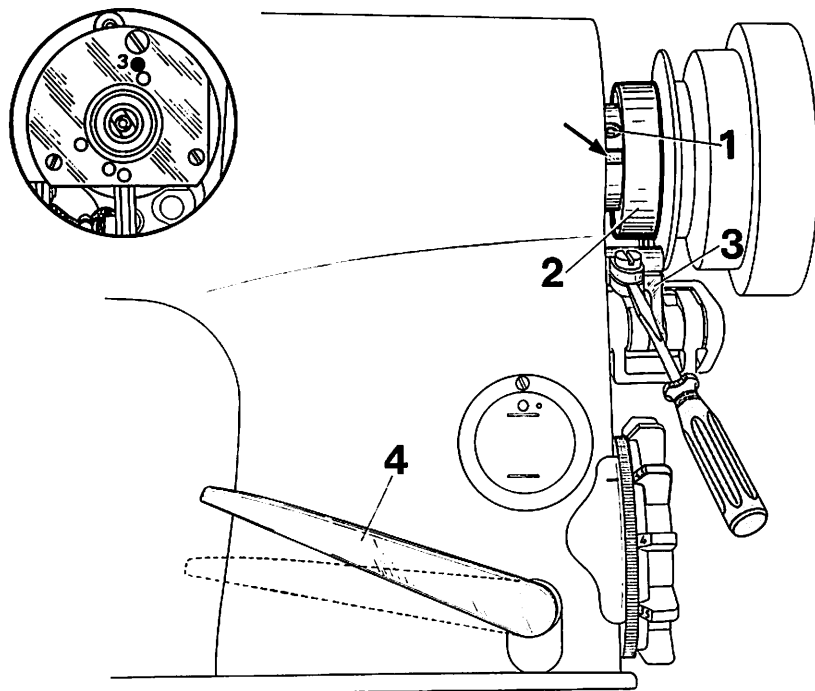

Fig. 7.0.1.
- 7.3. Turn needle feed eccentric 2 so that its slot points forward (see arrow in Fig. 7.0.1.).